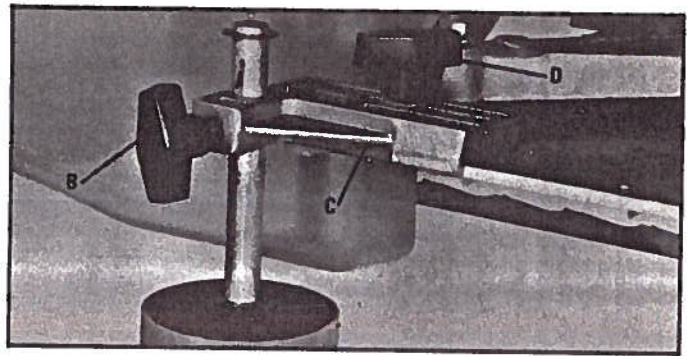

Fig. 34
For most cutting operations the guide wheels (A) Fig. 34 should be adjusted so they are in line with the saw blade by loosening knob (B) and moving wheel shaft up or down.
The wheel brackets (C) can be adjusted from in or out on the platen to keep the saw centered on the log, by loosening knob (D) Fig. 34.